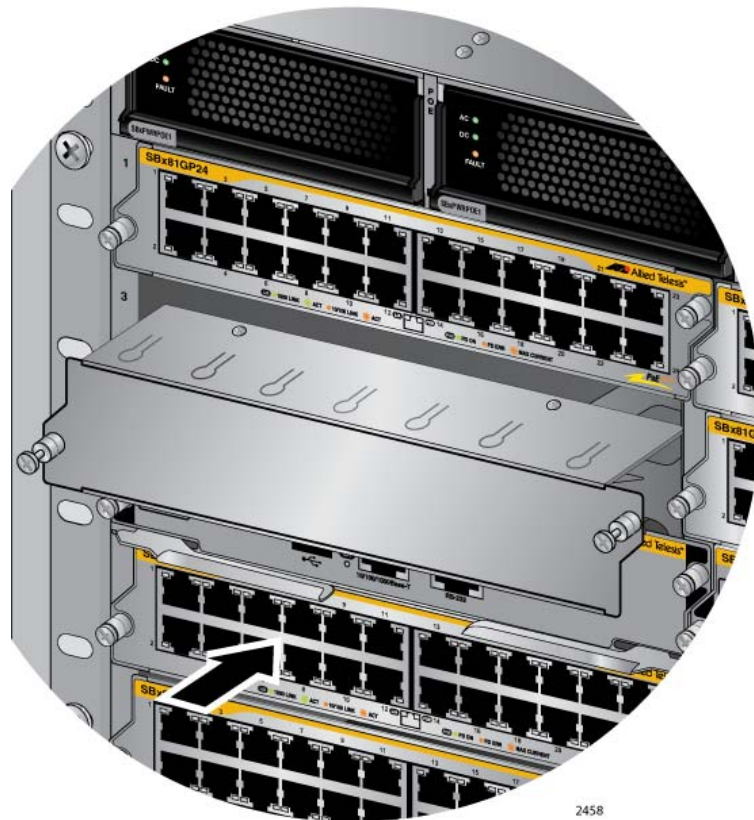

Figure 76. Installing a Blank Slot Cover
1. Position a blank slot cover over an unused slot, as shown in Figure 76.